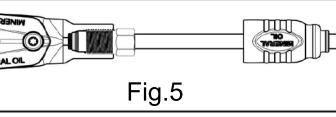

Fig.5
- ⑥ Tighten the flare nut into the connection port (Torque 70-90 kgf-cm) (Fig.5)